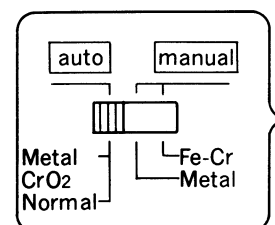

Fig. 4
- When the tape used is provided with metal tape mode detection hole, set the tape selector located at the back of the set to auto position (fig. 4).
- Set the tape selector located at the back of the set to auto position (fig. 4).
- When the tape used is provided with CrO₂ tape mode detection hole, set the tape selector located at the back of the set to auto position (fig. 4).
- When the tape used is not provided with the CrO₂ tape detection hole, set the tape selector to auto position as shown in fig. 4, and pull out the 6 pin socket-, and short-circuit the terminal of the 6 pin post- as shown in fig. 7, then the circuit is set to CrO₂ mode.